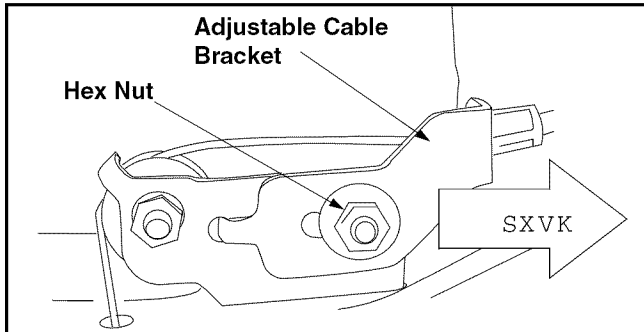

Figure 12
The adjustable cable bracket is located on the left side of the mower beside the engine. See Figure 12.
- Loosen hex nut which secures the adjustable cable bracket. See Figure 12.